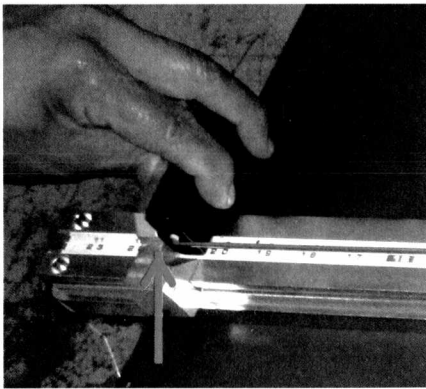
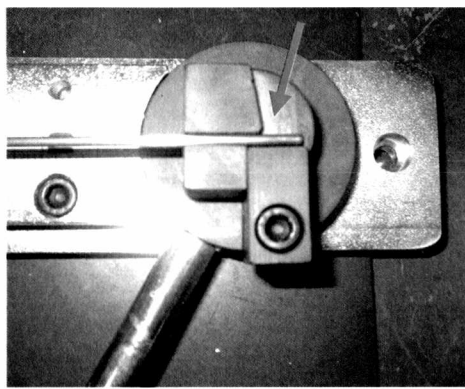

Figure 8.
Figure 9.
- 8.) Place the float against the float stop on the X-1760 "Float Rod Bender" (Figure 8).
- 9.) While holding the float in place (Figure 8), insert the free end of the float s/a into the bending portion of the "Float Rod Bender" (Figure 9).